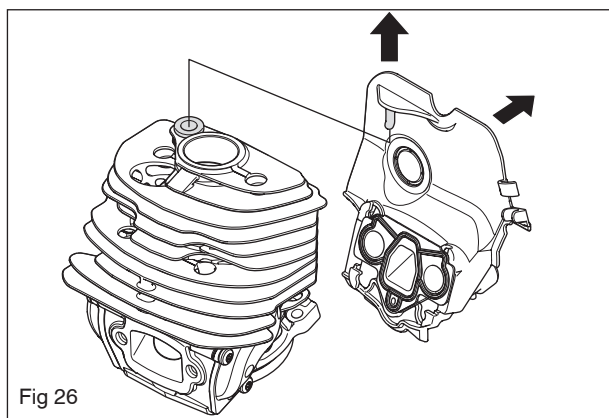

Fig 26
5. Dismantle the intake system. Pull up and then outward. See figure 26.